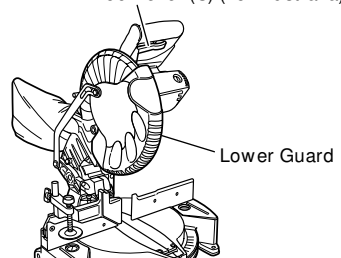

Fig. 4
- To lower the saw head to cut, the lock must be released by pressing the lock lever (C) with your thumb.
- (1) When you push down the handle while pushing the lock lever (C), check that the lower guard revolves smoothly (**Fig.4**).
- (2) Next, check that the lower guard returns to the original position when the handle is raised.